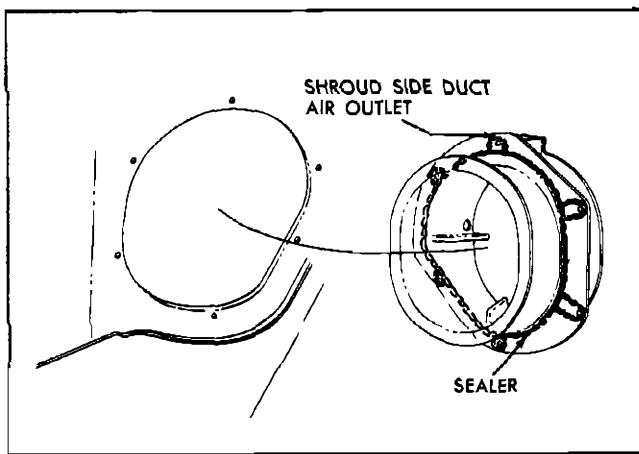

Fig. 4-5 Pontiac—Side Duct Air Outlet Sealing
3. Apply a bead of medium-bodied sealer to areas indicated in Figs. 4-5 and 4-6 and install reversing the above procedure.